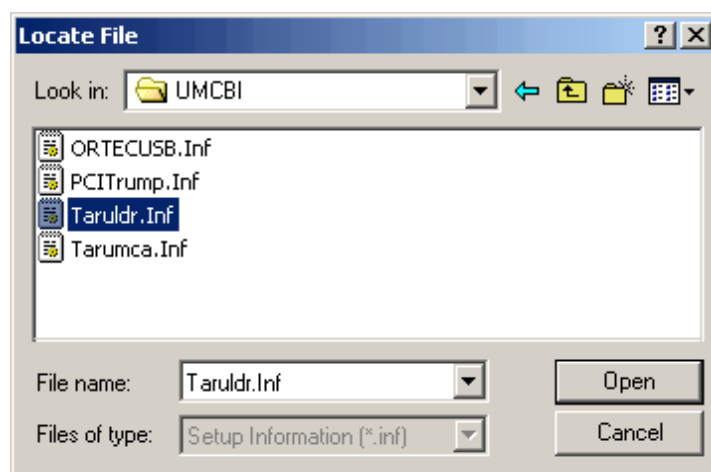

Fig. 34. Select the Driver File.
- 4) The Found New Hardware dialog might ask you to insert the software application CD (e.g., MAESTRO) — *do not do this*. /The driver files have already been copied to your PC and, to ensure proper function, should be installed from that location, *not from the CD*. Click on the **Browse** button (Fig. 34), go to **c:\Program Files\Common Files\ORTEC Shared\UMCBI**, and select the **.INF** file specified in either the hardware manual or Table 1, which lists the valid **.INF** files as of May 1, 2003. Click on **Open**. This will return you to the Found New Hardware dialog. Click on **OK**.